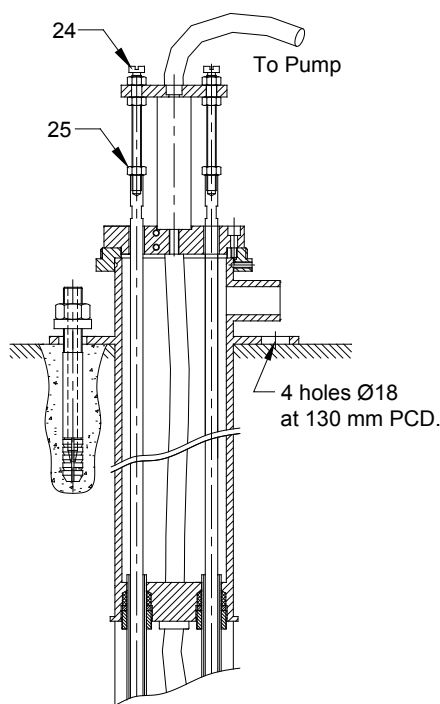

Figure 3.2 – Setting arrangement for 3pt BHE
- 3.3.11 Assemble cheese head screw (24) and locking nuts (25) as shown in figure 3.2. Slightly loosen hollow bolts (12) related to holes '1', '2' and '3'. Adjust end of connecting rod in required position and tighten the lock nuts (24). To set connecting rod ends, refer to table below: